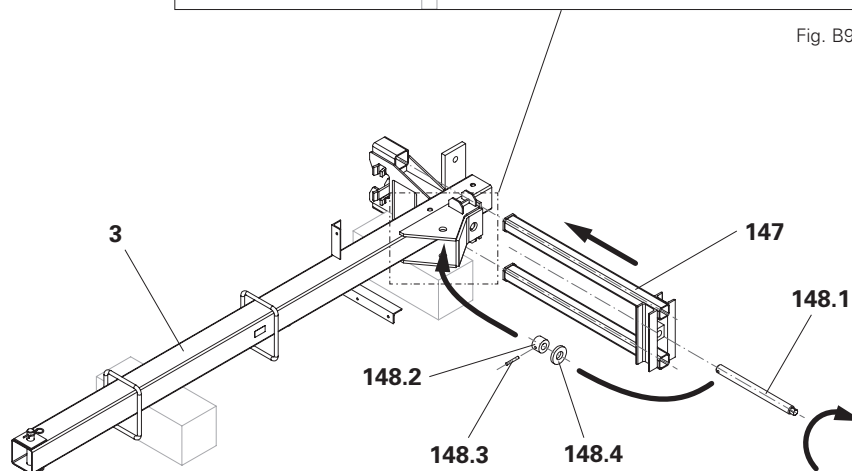

Fig. B9.01
- Before assembly of the pressure point spindle, carefully grease the thread with slide bearing grease. (Fig. B9.01 + B9.01a)
- (Fig. B9.01 + B9.01a)